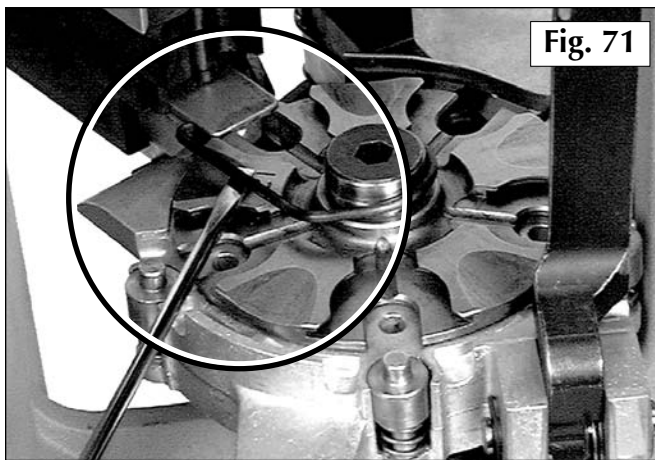

Fig. 71
1. Remove the ejector wire (#16676). Using a small, flat blade screwdriver, hook it beneath the ejector wire (#16676) and lift upward to remove it. **Fig. 71**